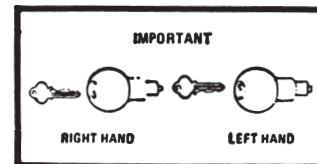

Fig. 2
- ii - Insert knob and cylinder assembly so that CUTS IN KEY ARE FACING DOWN, then push until knob snaps in (Fig. 2).
- ii - Insert Knob and cylinder assembly so that CUTS IN KEY ARE FACING UP, then push until knob snaps in (Fig. 2).